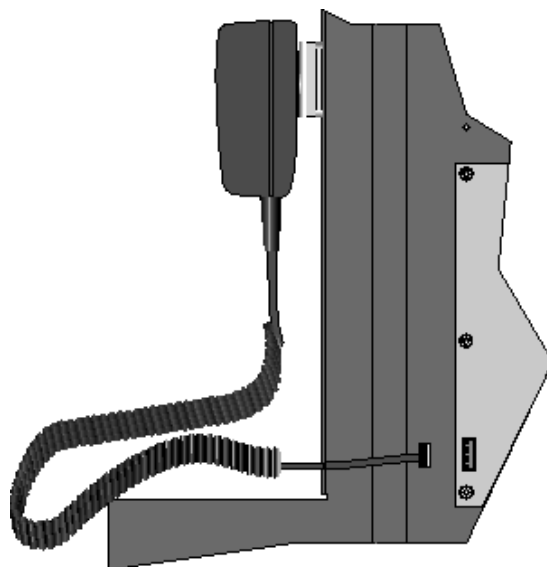

Figure 4-5 Microphone Cord Inserted Through Dead Front Panel Hole
2. Insert Microphone cord through hole at the bottom of the dead front panel. See Figure 4-5.